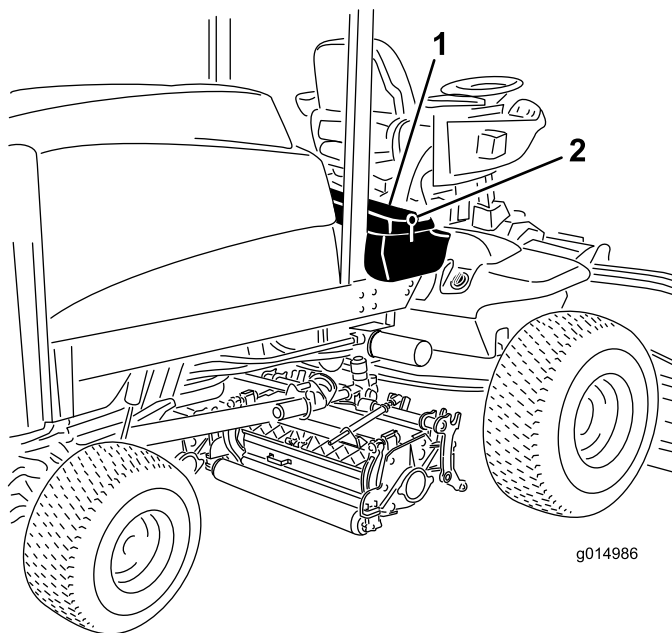

Figure 57
1. Unlatch and raise the operator's console panel (Figure 57).